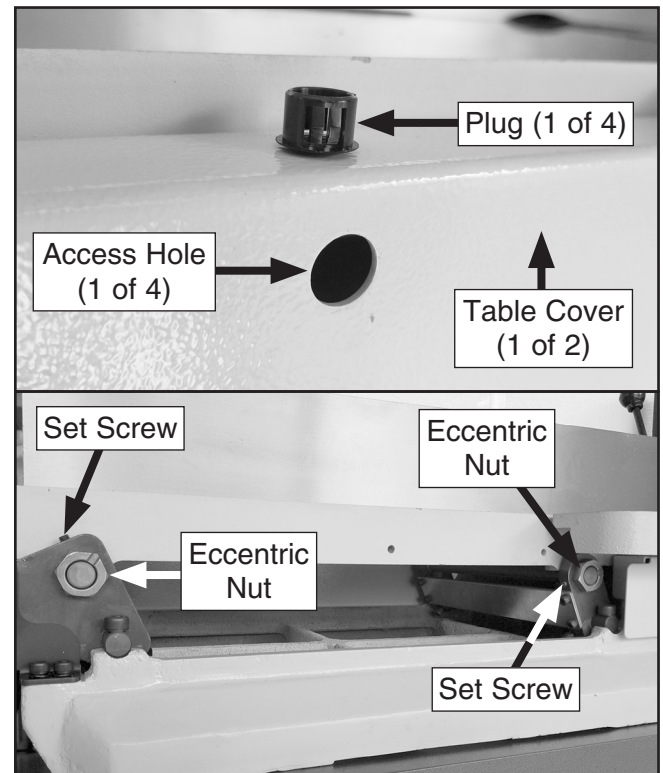

Figure 50. Accessing outfeed eccentric bushing (2 of 4).
2. Remove outfeed table covers by removing plugs (see **Figure 50**) and accessing cap screws that secure covers to table, and then loosen set screws from eccentric bolts under outfeed table (see **Figure 50**).